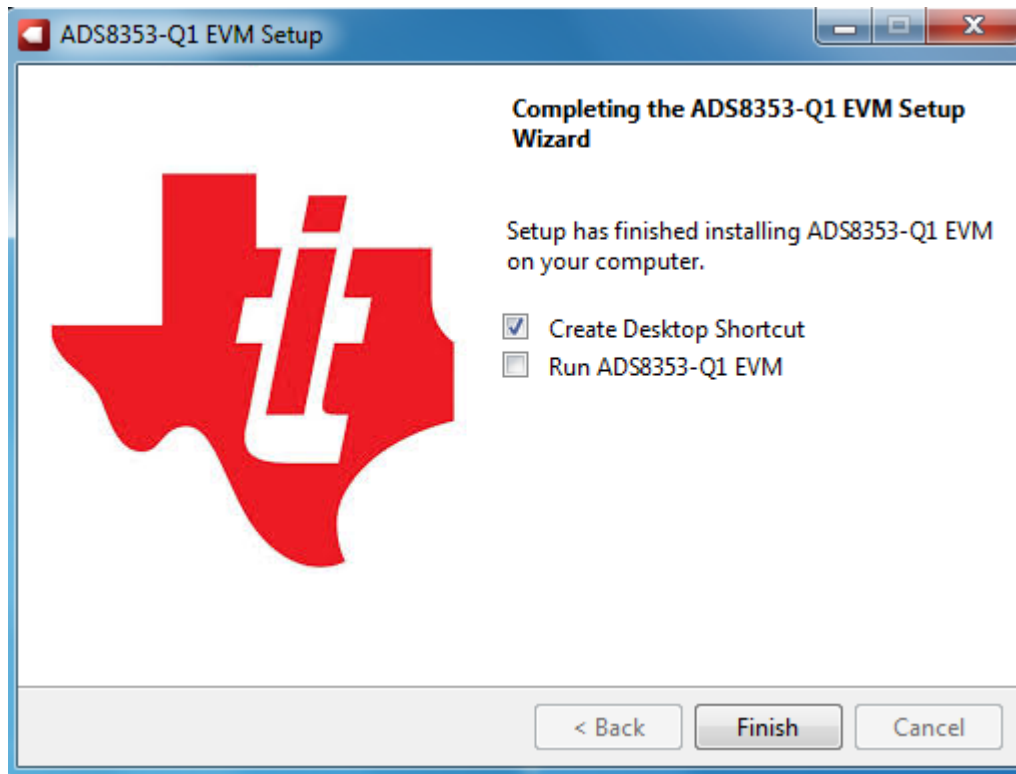

Figure 6. ADS8353Q1EVM-PDK Installation Final Step
4. Check the *Create Desktop Shortcut* box, as Figure 6 shows, after these installations.